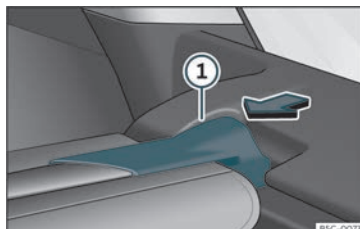

Fig. 119 In the luggage compartment: removing the shelf.
- Press the rear shelf support»» **Fig. 119** ① in the direction of the arrow.
- Engage the support of the rear shelf»» **Fig. 119** ① into the housing on the other side.